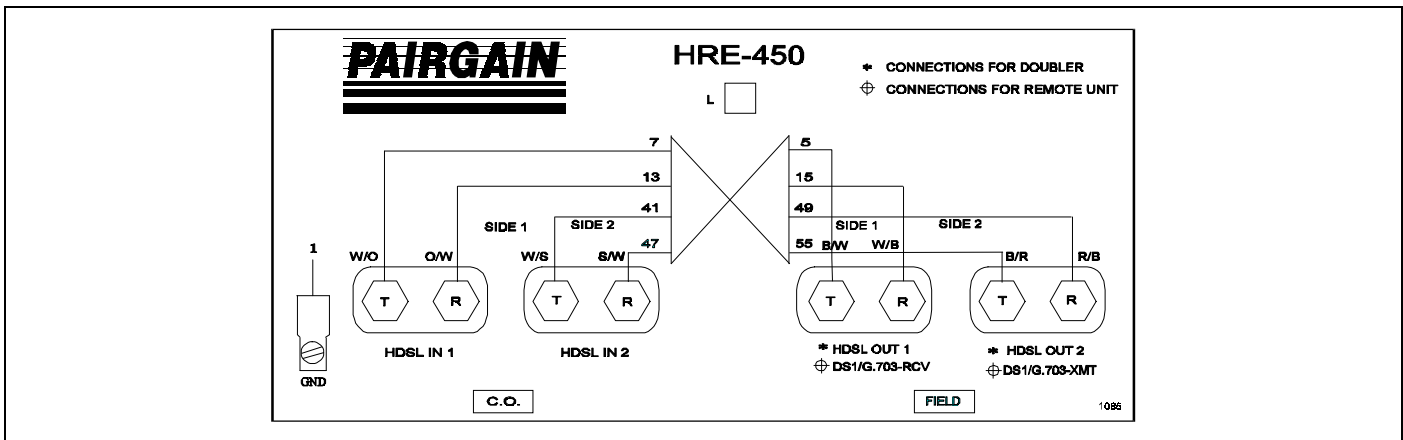

Figure 5. HRE-450 Wiring Diagram.
10.04 Figure 5 shows the identity of the four ports to which each cable stub provides access. The CO ports are restricted to the CO HDSL cable pair connections for either the doubler or the remote unit. The FIELD pairs connect to the FIELD HDSL pairs for doubler applications or to the DS1 or G.703 interfaces for remote unit applications. The pair assignment was chosen to minimize the crosstalk between the DS1 or G.703 ports. PairGain does not recommend grounding the two unused pairs. This practice exposes the other pairs to ground, and as such increases their tendency to breakdown when high voltage transients enter the cable.